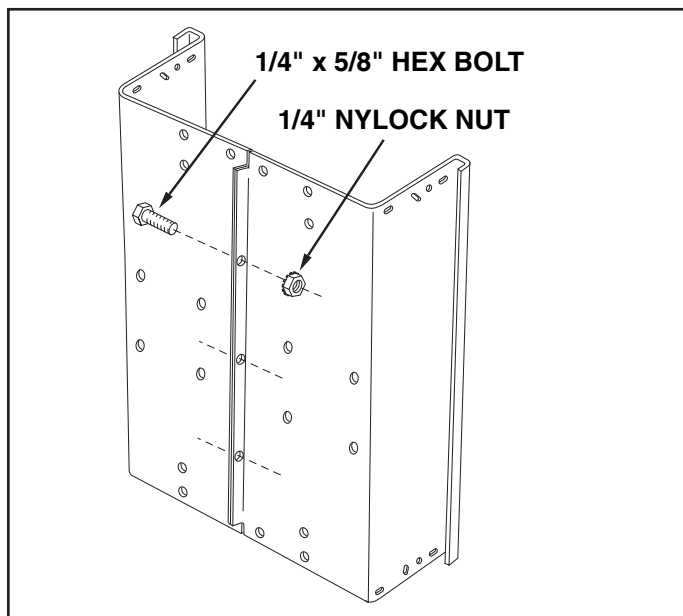
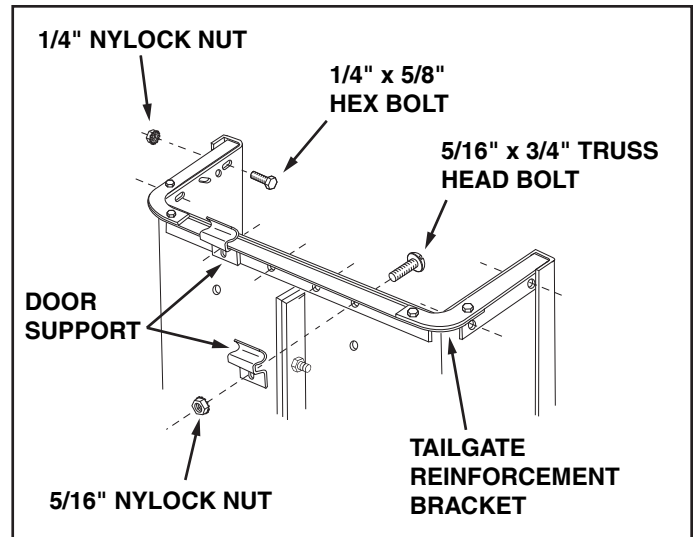

FIGURE 1
FIGURE 2
1. Place cart body halves upright on a smooth level surface such as a garage floor or a paved driveway. See figure 1.
2. Assemble cart body halves together using three 1/4" x 5/8" hex bolts and 1/4" nylock nuts as shown in figure 1. **Do not tighten yet.**
3. Fit the tailgate reinforcement bracket over the end of the cart bed. Position the two door support brackets on the bottom of the reinforcement bracket as shown in figure 2. Fasten the reinforcement bracket and the door supports to the bottom of the cart using four 5/16" x 3/4" truss head bolts and 5/16" nylock nuts. **Do not tighten yet.** See figure 2.
4. Fasten the tailgate reinforcement bracket to the sides of the cart body using four 1/4" x 5/8" hex bolts and 1/4" nylock nuts as shown in figure 2. **Do not tighten yet.**
5. Pull the cart body halves together. **Tighten** the four truss head bolts in figure 2. **Tighten** the four hex bolts in figure 2. **Tighten** the three hex bolts in figure 1, keeping the bottom aligned and pulled together.